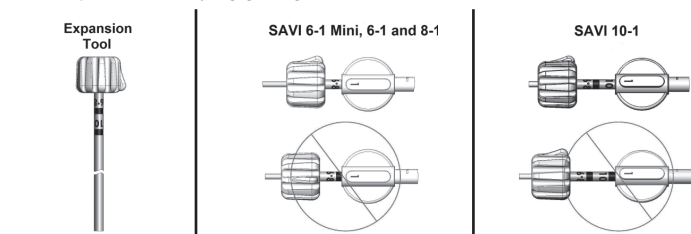

Figure 1 Expansion Tool Markings
2. Insert the Expansion Tool into the fitting at the proximal end of the Applicator until the black line on the shaft of the Expansion Tool for the respective model is no longer visible. These markings serve as confirmation that the expansion tool is fully engaged. (Figure 1)